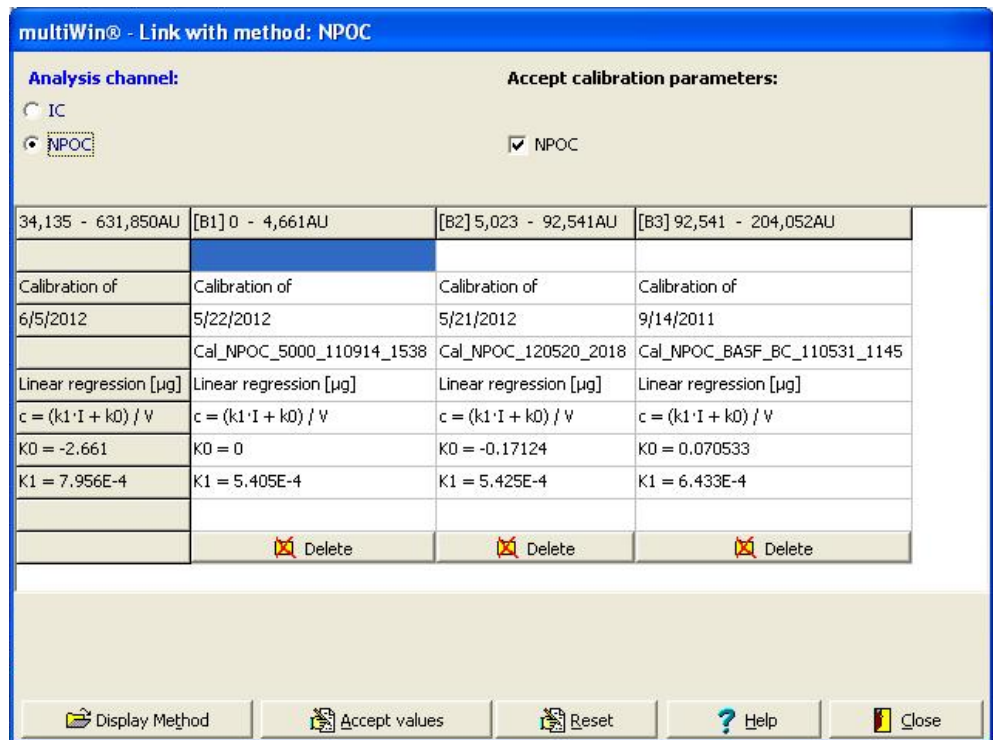

Fig. 34 Window LINK WITH METHOD with three areas
- A SEAMLESS LINKING means that the top end of the area of one calibration range corresponds to the bottom end of the area of the next calibration range (see Fig. 34 table, first line)